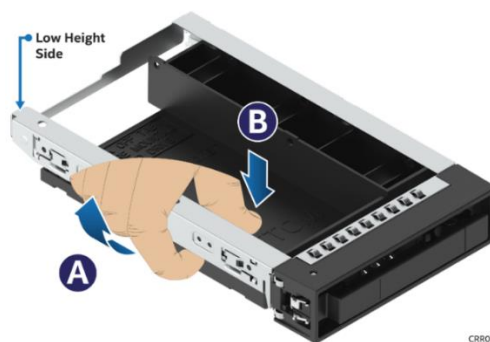

Figure 30. 3.5" Drive Blank Removal
2. Remove the drive blank from the drive carrier (see Figure 30)